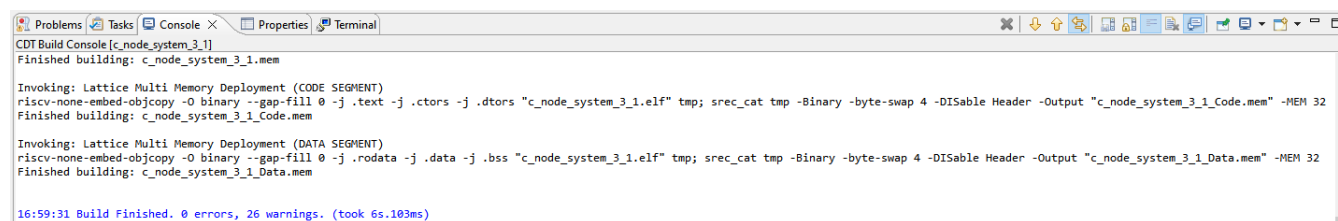

Figure C.51. Completing Process
11. Wait for the process to reach 100%. After completion, the message shown in Figure C.51 appears on the console.